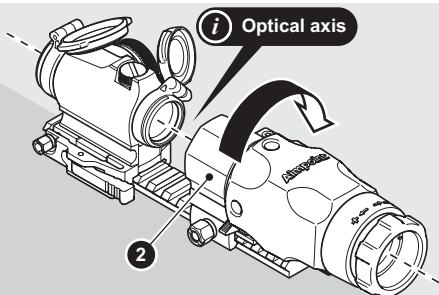

Fig. 4 Flip the FlipMount top out of the optical axis
- Flip the FlipMount top (2) out of the optical axis of the sight by pushing it away from the sight until it snaps into place (see Fig. 4).